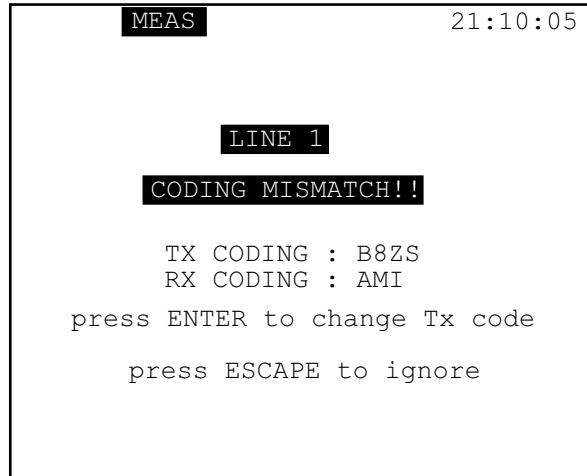

Figure 153 Coding Mismatch Message
- When the SunSet T10's code is AMI, and the SunSet T10 detects B8ZS coding, the SunSet T10 will display a message similar to the one in Figure 153.
- When the SunSet T10's code is B8ZS, and the SunSet T10 detects AMI coding, as represented by a string of seven consecutive zero's, the SunSet T10 will display the message as shown in Figure 153.